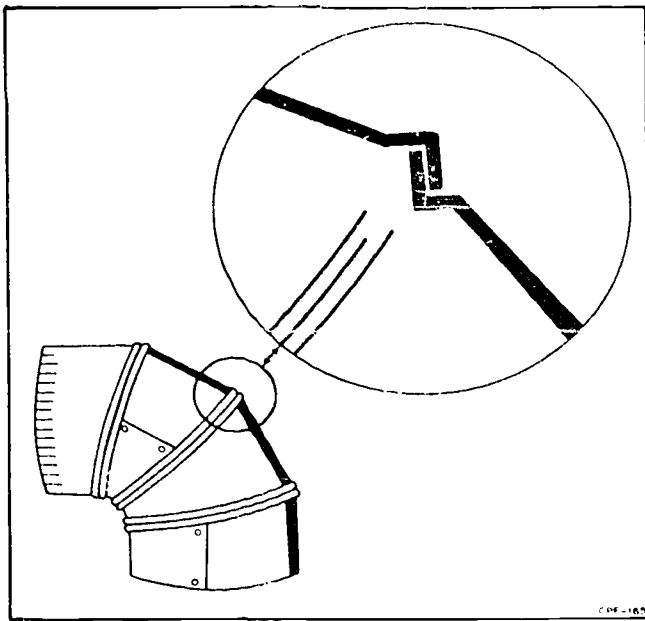

Figure 2-23. Elbow edge joint.
**Elbow Edge.** The elbow edge is a joint used to connect small sections of round duct to transition pieces, such as, adjustable elbows, diffuser box, and register box. The elbow edge is made by bending the edges of two items of the same size so that they will lock together, as seen in figure 2-23. To assemble an elbow edge joint, leave one rivet out to allow the section to be spread and slip over the edge of the other piece. Then push the ends back into place and install the second rivet. Check the joint to ensure everything is properly aligned.